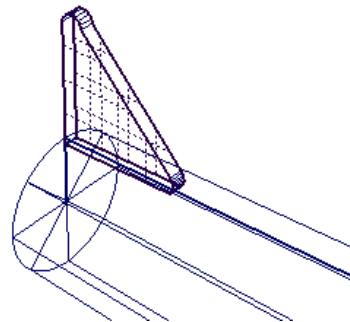
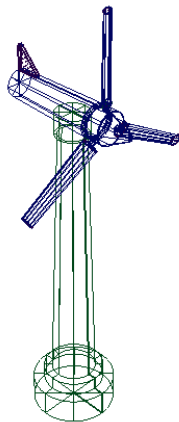

Figure 3-103 Planar surfaces created on the front and back faces
Figure 3-104 Complete model
- Select both the edges of the skin surface and choose the **Go** button; the two planar surfaces are created, refer to Figure 3-103. Figure 3-104 shows the complete model.